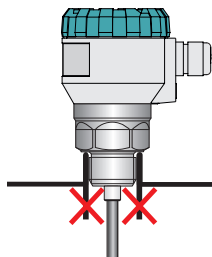

Fig. 7: Incorrect welding flange mounting to the tank
- The end of the socket or the welding flange **must not have an extension** into the tank in Fig. 7.